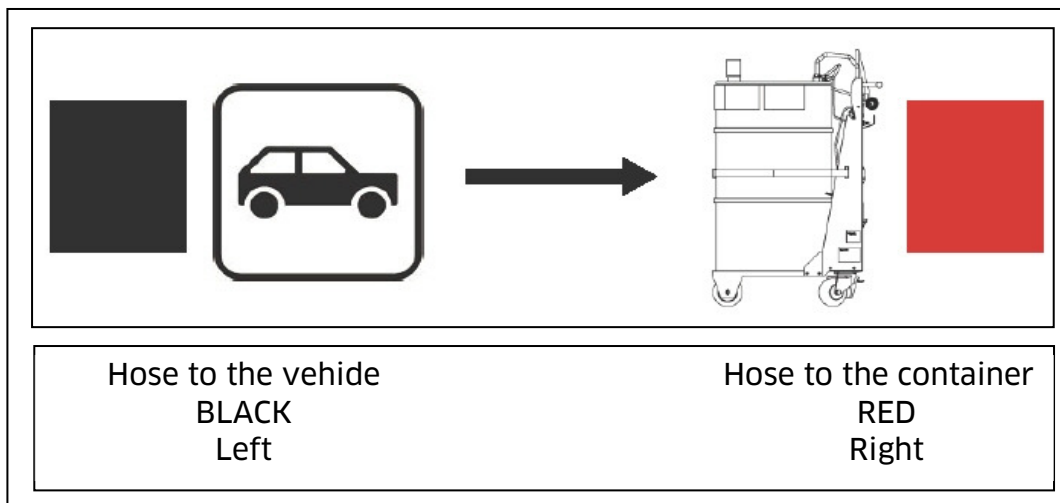

Figure 4
3. Connect the delivery hoses for the 'extraction' operating mode; see fig. 4.